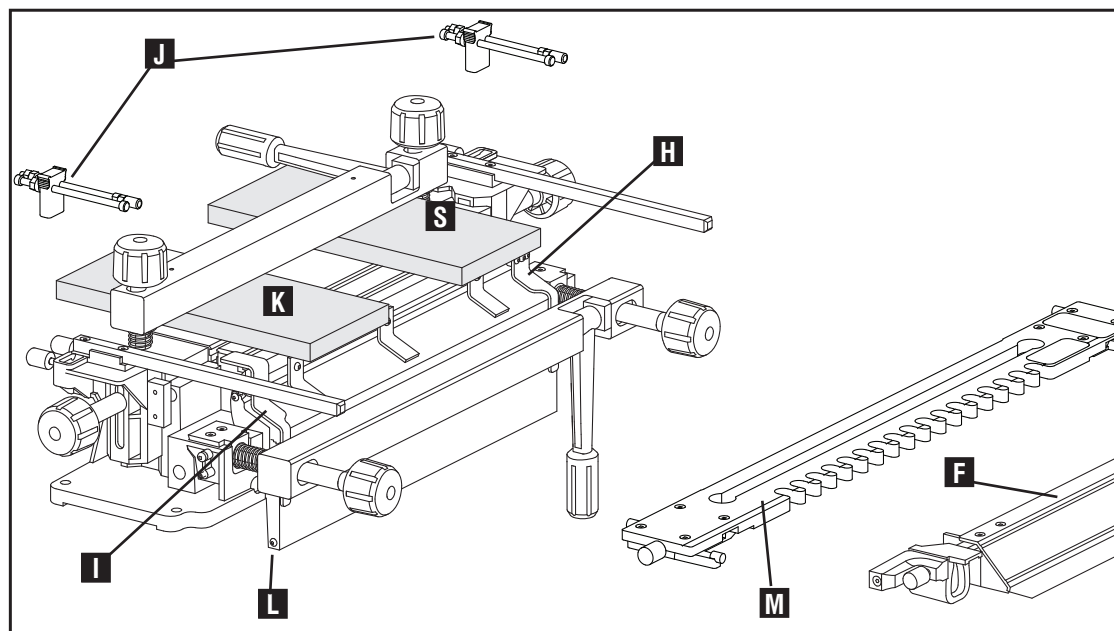

Fig. F7
1. Remove stabilizer bar (F) Fig. F7 and template (M).
2. Set black edge guide (H) to right and silver edge guide (I) to the left.
3. Insert proper stops (J).
4. Put pinboard (drawer front) (K) in the horizontal position with "outside surface" facing the jig. Don't worry about position at this point, but don't let the board go beyond the front edge of the base (L).
5. Mount template (M).
NOTE: Mount fixed finger templates as shown in Fig. F7.